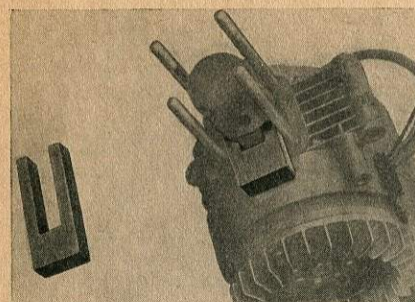

Figure 7: Wood Block, Part No. 093030
1. Wood Block for keeping the piston on position (Fig. 7).